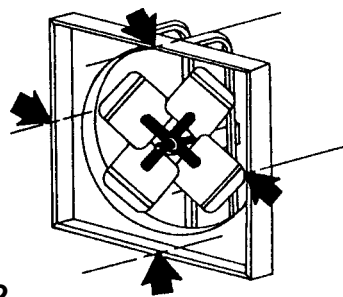

FIG. 2
STEP 4—Drill (4) holes in fan housing as shown in Fig. 2.
STEP 5—Position fan on frame and secure with (4) wood or lag screws (number 12 x 1 1/2" preferred) through holes drilled in STEP 4.